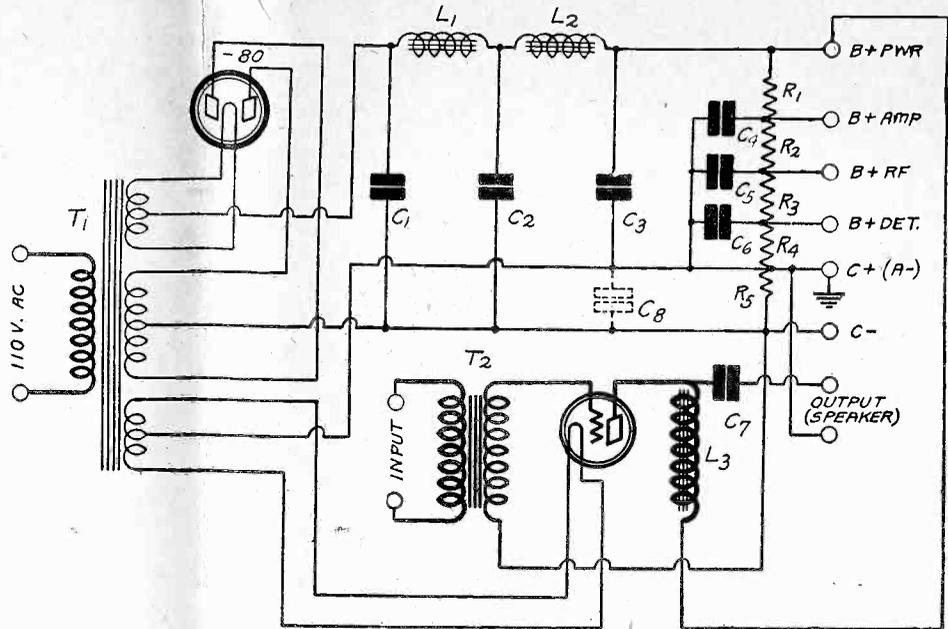

FIG. 715
(1)—Fig. 715 shows the circuit.